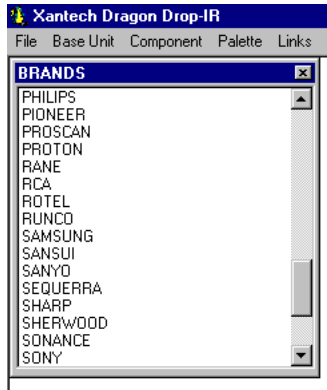

Figure 3 – Brands
2. Locate and Select (single click) the desired BRAND as shown in **Figure 3** (i.e. Sony, Panasonic etc). A list of Components will appear. (See later sections for adding brands.)